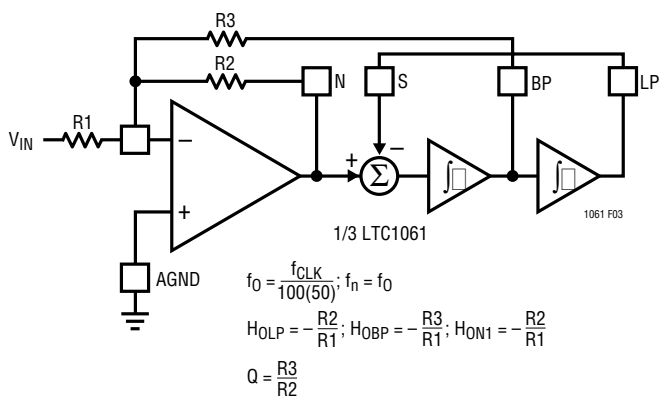

Figure 3. Mode 1: 2nd Order Filter Providing Notch, Bandpass, Lowpass
**1. Primary Modes:** There are two basic modes of operation, Mode 1 and Mode 3. In Mode 1, the ratio of the external clock frequency to the center frequency of each 2nd order section is internally fixed at 50:1 or 100:1. In Mode 3, this ratio can be adjusted above or below 50:1 or 100:1. The side C of the LTC1061 can be connected only in Mode 3. Figure 3 illustrates Mode 1 providing 2nd order notch, lowpass, and bandpass outputs (for definition of filter functions, refer to the LTC1060 data sheet). Mode 1 can be used to make high order Butterworth lowpass filters; it can also be used to make low Q notches and for cascading 2nd order bandpass functions tuned at the same center frequency and with unity-gain. Mode 3,